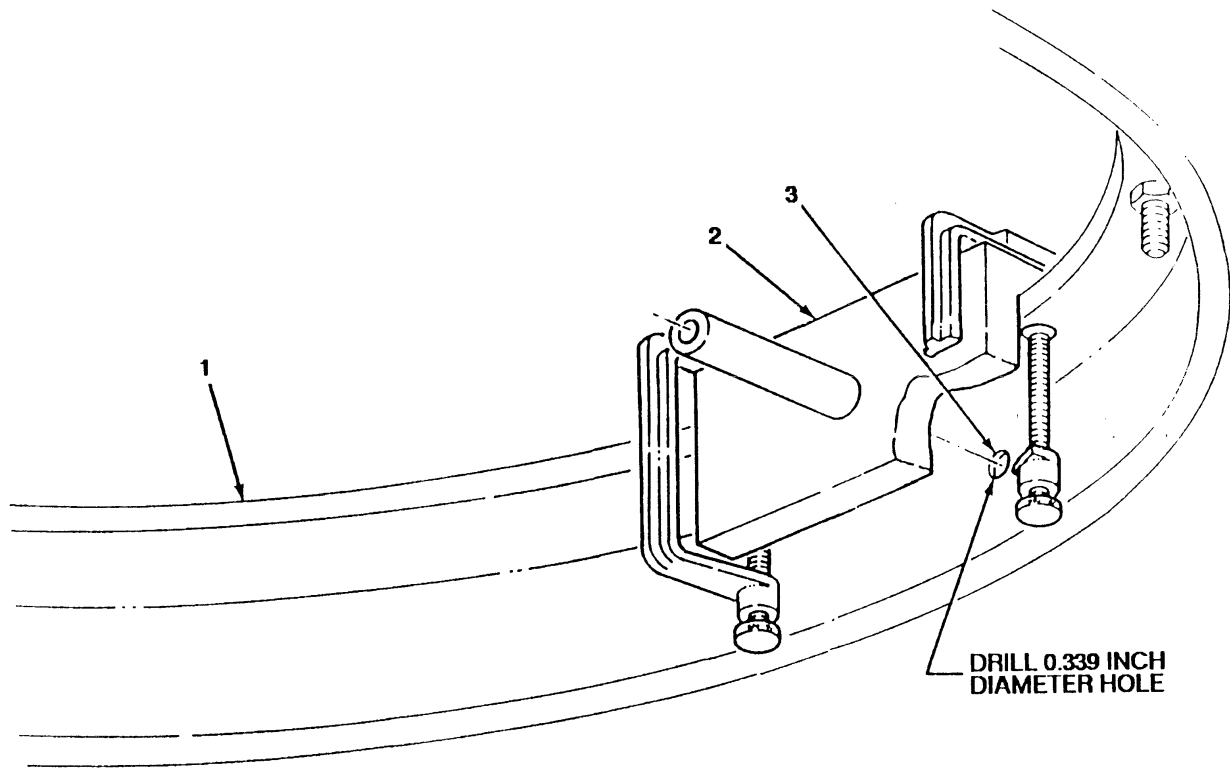

FIGURE 3-15
5. Drill 0.339-inch diameter hole (3) on inner bearing (1) using fixture (2). (see figure 3-15)
6. Remove fixture (2) from inner bearing (1).